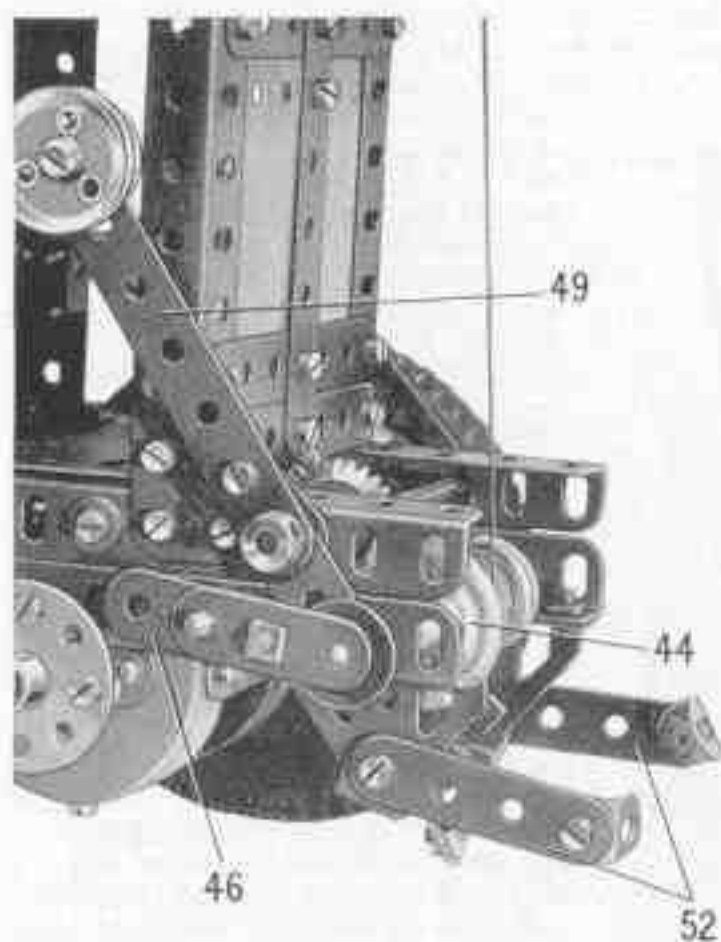

FIG. 6 The balance weight and lever fitted to one end of the winding drum shaft
The drive to the winch is brought into operation by sliding the  $4\frac{1}{2}$ " Rod upwards in the slotted holes until the Rubber Ring on Pulley (44) presses against the Collar (43). The movement of the Rod is controlled by a Crank (45) (Fig. 8), and a Double Arm Crank (46) extended by a  $1\frac{1}{2}$ " Strip (Fig. 6). These are fixed on a 5" Rod (47) mounted in  $1\frac{1}{2}$ " Strips that are bolted over slotted holes in the chassis. A Double Arm Crank (48) is fixed on Rod (47). The Crank (45) and the Strip bolted to the Double Arm Crank (46), are slipped over the ends of the Rod that carries the winch drum. At one side a balance arm (49) is fitted on the Rod, and is separated from the  $1\frac{1}{2}$ " Strip by two  $\frac{1}{2}$ " Washers. The balance arm consists of a 2" Slotted Strip and a  $3\frac{1}{2}$ " Strip overlapped two holes, and it is held by a Collar at one end of the Rod (42). The top end of the arm is weighted by two 1" loose Pulleys.
Two 2" Strips (52) are connected to the 7½" Strip by Angle Brackets, and are bolted to Trunnions fixed to the chassis (Fig. 6). A 2½" × ½" Double Angle Strip is bolted between the Trunnions, and a 2½" Strip (53) is attached to it by an Obtuse Angle Bracket. This Strip is arranged so that the Rubber Ring on Pulley (44) bears against it when the winding drum is pulled by its spring to the lower limits of the slotted holes. This forms an automatic brake that is released when the winding drum is lifted to engage the drive.